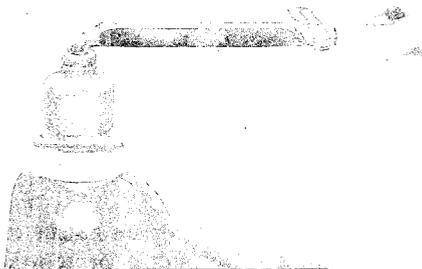

Fig. 9-16 Checking pinion bearing preload
6. Tighten the pinion nut to 20 m-k_g (145 ft-lb) and check the preload as shown in Fig. 9-16.